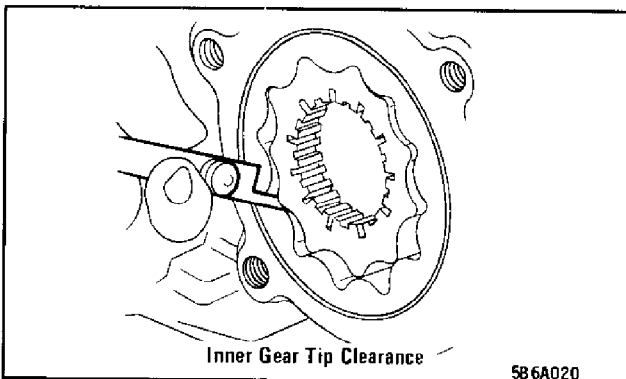

Figure 32 Measuring Gear Tip Clearance
- inner gear tip clearance .152 mm (.006) - see Figure 32